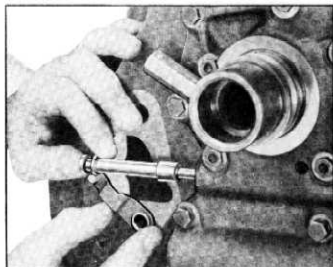

Fig. 132—Indexing Manual Valve with Lever
1. Install manual valve in valve body and manual valve inner lever in turbine housing. Index lever pin with pick up slot in valve (fig. 132).